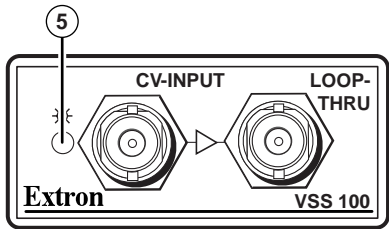

Figure 3 — VSS 100 Power indicator
- 5 **Power LED** — This front panel LED (figure 3) lights to indicate that the VSS 100 is receiving power.